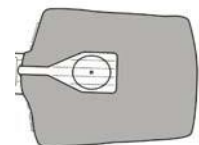

Figure 9
10. Then position the Lung-Bag on top of the compression plate (the hard plastic circular piece found on top of the torso foam core) with the circular imprint on the Lung-Bag aligning with the compression plate (Figure 9).